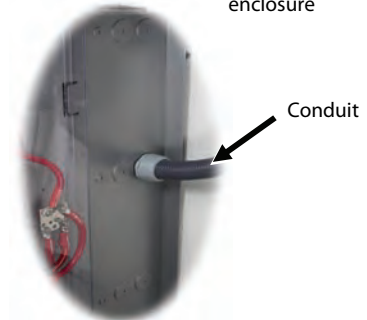

Figure 6 Bus and Load Cabling
5. The rack is equipped with cables for each shelf (positive on the right, negative on the left). Connect each cable to the appropriate side of each battery string. The cables lead to separate buses on each side of the rack that place each string in parallel. (See Figure 6.)